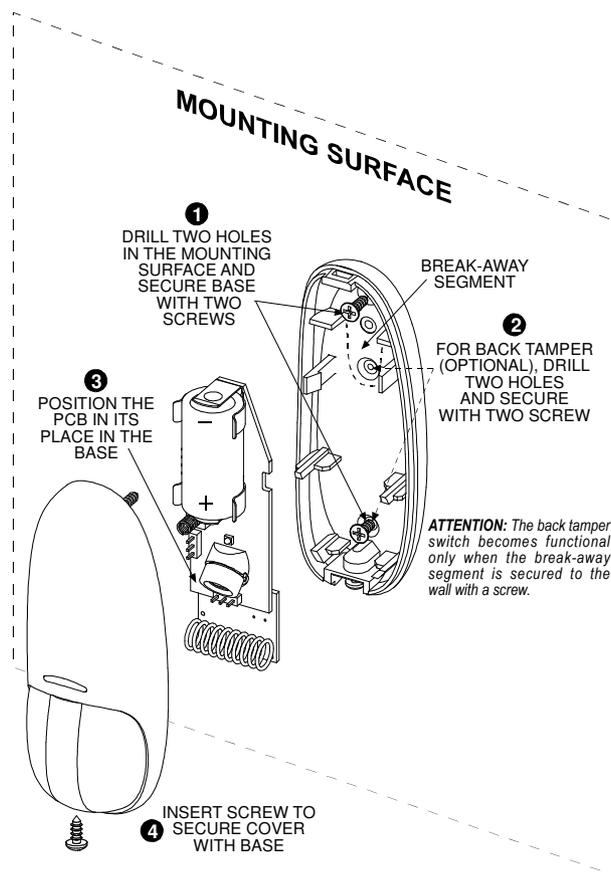

Figure 9. Surface Mounting
**Installation Options:** See Figures 9 through 13.